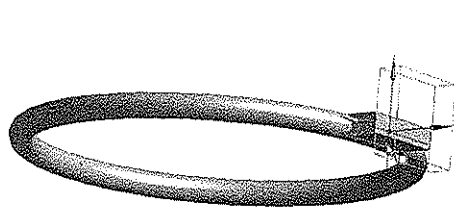

Figure 5-54 Selecting the bottom face of the first extruded feature
52. Next, select the bottom face of the first extruded feature, as shown in Figure 5-54.